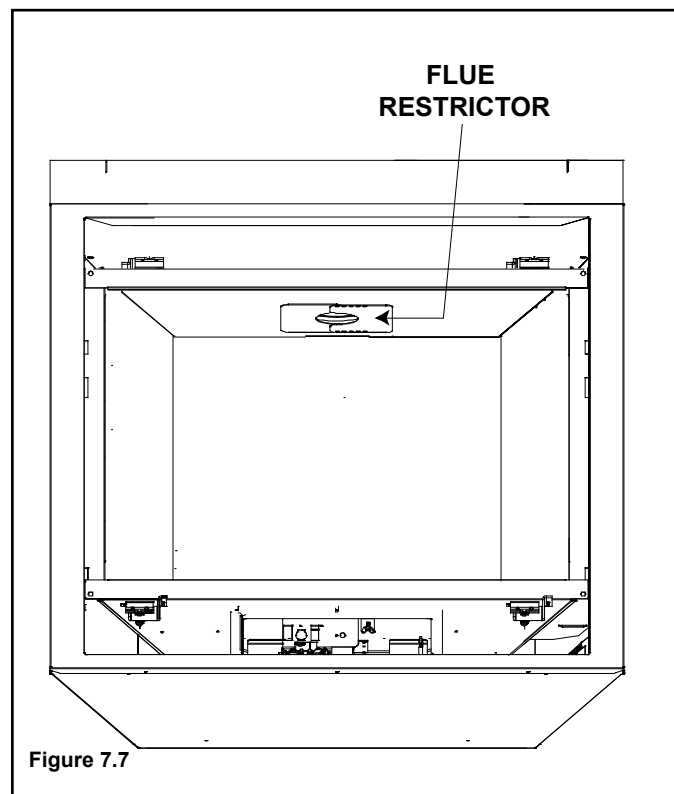

Figure 7.7
4. Center the two flue restrictor pieces on the vent at the setting selected in step 3 and secure in place by using two self-tapping screws. See Figure 7.7.